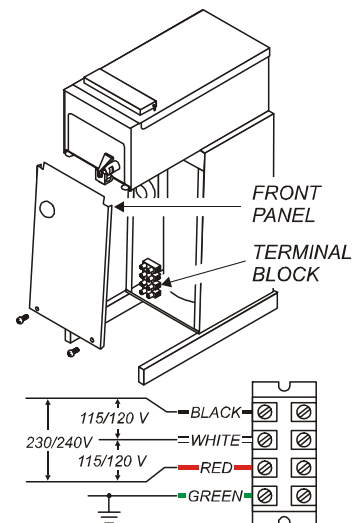

Fig. 3 115/230 Volt Terminal Block
**Models 1086 & 1088** must be wired by an electrician, and require a 115/230V 20A circuit (50/60 Hz, 2 hot legs / 1 neutral leg, plus ground). Remove front panel to gain access to terminal block. Green terminal must be connected to a suitable building ground. Circuit must be capable of 3500 Watts. See figure 3 at right.